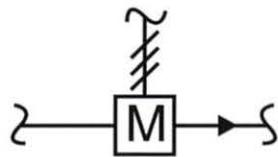

Figure 47. Flow Sensing Element Symbol
- ❑ 1. Determine which type of flow sensing element symbol is shown in figure 47.